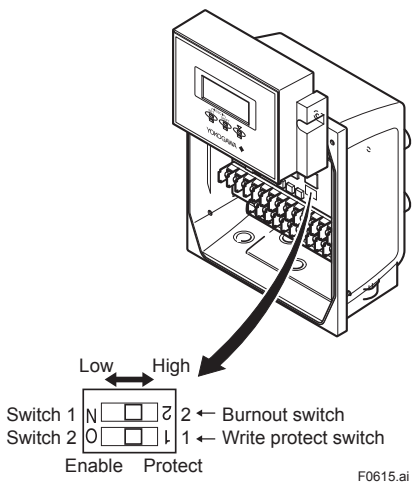

Figure 6.3.6 Hardware switches
(2) Taking care of the connector and cable connecting to the display unit, move the display unit as shown in Figure 6.3.6, and set the switches. Never remove connector in this case.
The burnout function sets the direction of current output in situations where the CPU has become damaged. Upon shipment from the manufacturing plant, the burnout direction is set to High (i.e., 25 mA); however, in cases where the optional codes C1 have been specified, the output direction will be set to Low (i.e., 0 mA). Modification of the burnout direction must be carried out using the burnout switch (i.e., Switch 1) (See Figure 6.3.6).
The write protect function is to prevent the overwriting of parameters. Write protection can be carried out using either the write protect switch (Switch 2) (See Figure 6.3.6) or software function with parameter setting. If either of these items is activated, the overwriting of parameters will be prohibited.